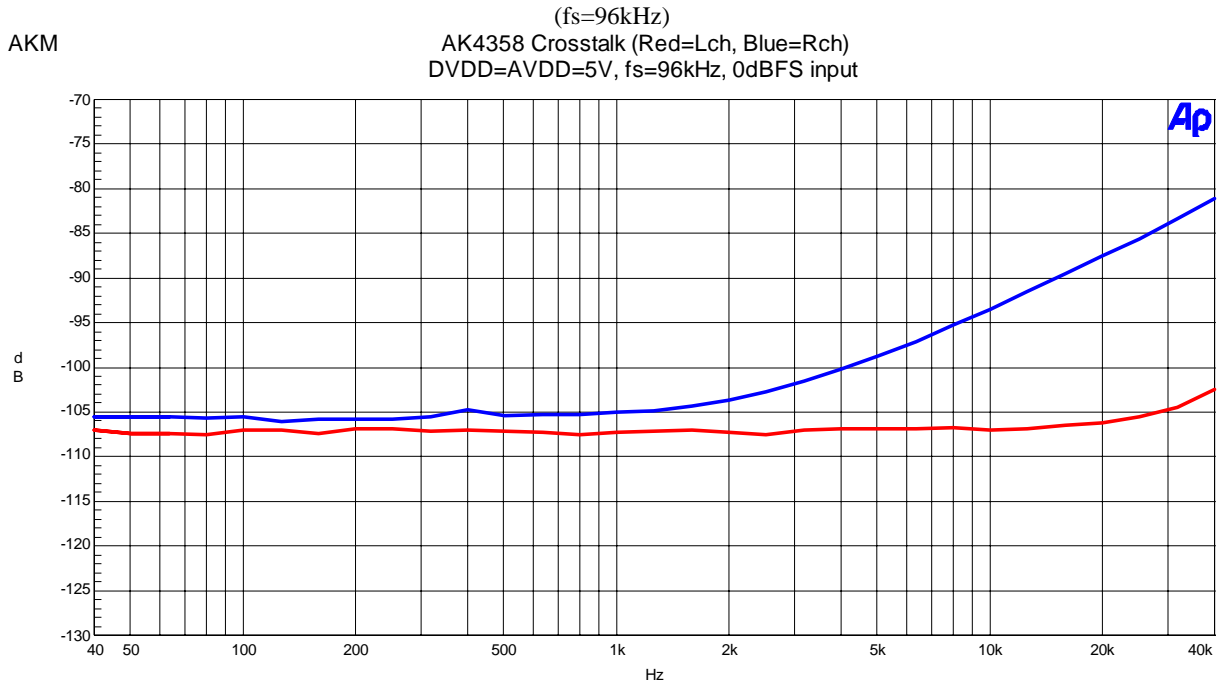

Figure 18. Cross-talk (0dBFS input)
- Figure 18. Cross-talk (0dBFS input)